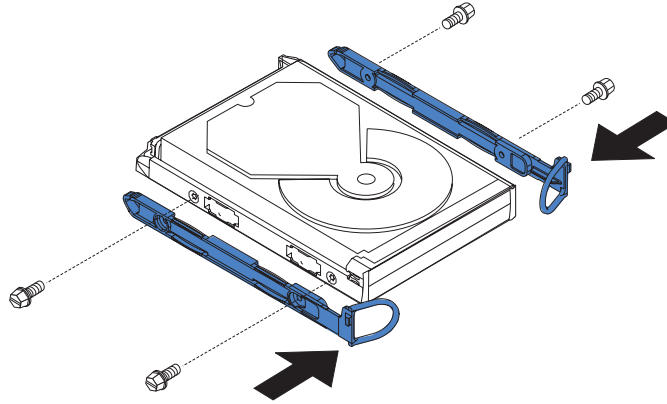

Figure 43. Attaching the rails to the disk drive
8. If you are exchanging the disk drive for another, see Figure 43 on page 173. Find the rails and screws that are shipped with the new disk drive. Attach the rails to the disk drive.